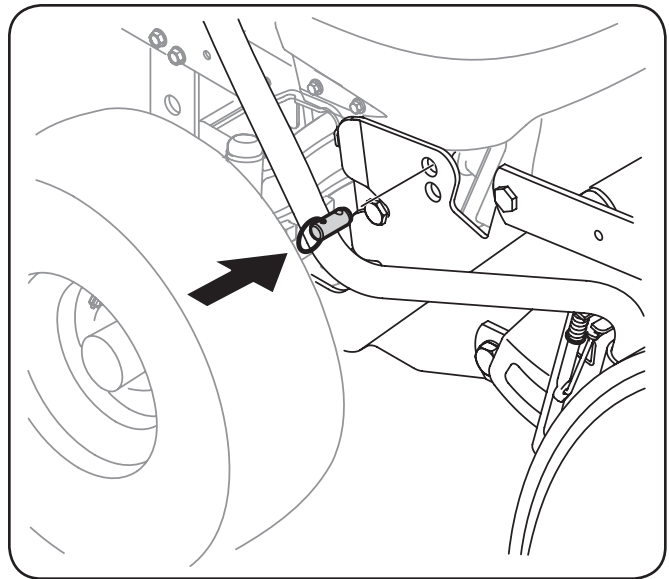

Figure 3-21
- Maneuver the auger housing until the mounting holes line up. Insert the two quick release pins from your hardware pack into the top hole on each side as shown in Figure 3-21.